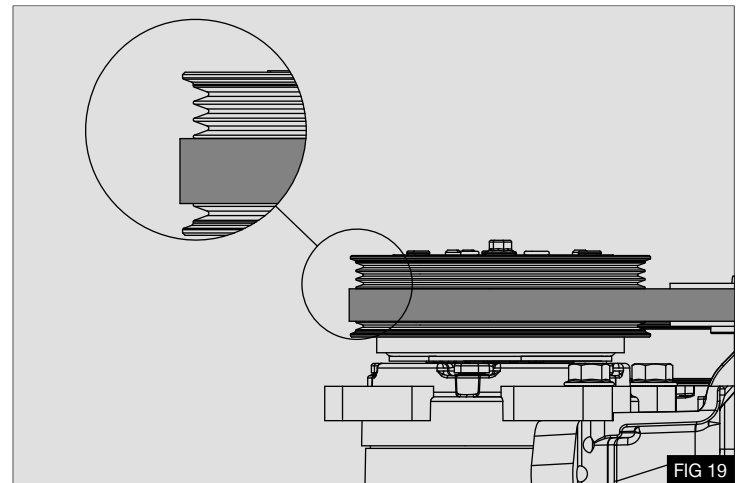

FIG 19
- Delphi SP15 compressors- Belt is installed with 3 spare grooves at the front of the compressor pulley. -Fig 19